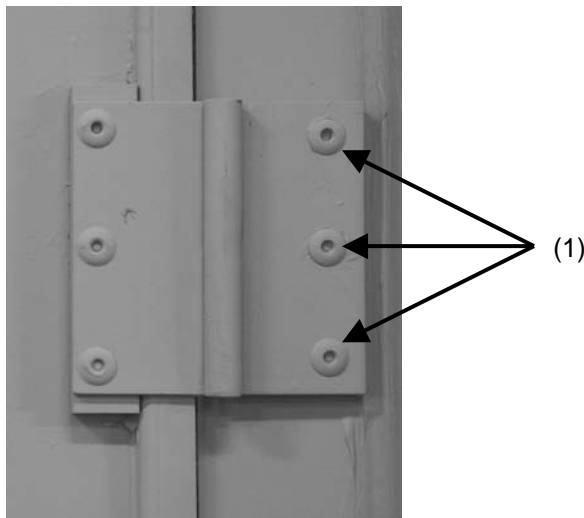

Figure 4-18. View of panel door hinge.
1. Remove three rivets (1) (Fig. 4-18) from side of hinge attached to container wall (WP 0037 00, Rivet Removal).